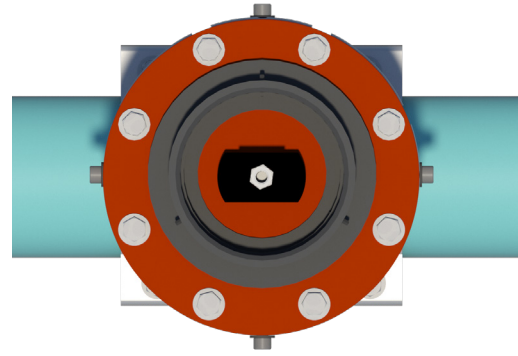

FIGURE 59
3.2.29) Install the Valve Box Adapter by placing it on the Insta-Valve valve bonnet, centering the Valve Box Adaptor around the operating nut between the valve bonnet mounting bolts (see Figure 59).